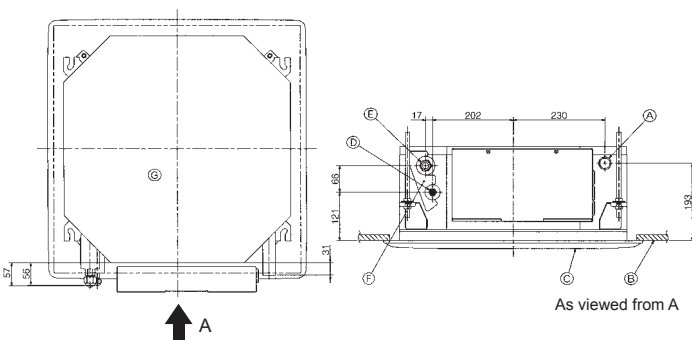

Fig. 5-7
5.3. Refrigerant and drainage piping locations (Fig.5-7)
- (A) Drain pipe
- (B) Ceiling
- (C) Grille
- (D) Refrigerant pipe (liquid)
- (E) Refrigerant pipe (gas)
- (F) Water supply inlet
- (G) Main unit